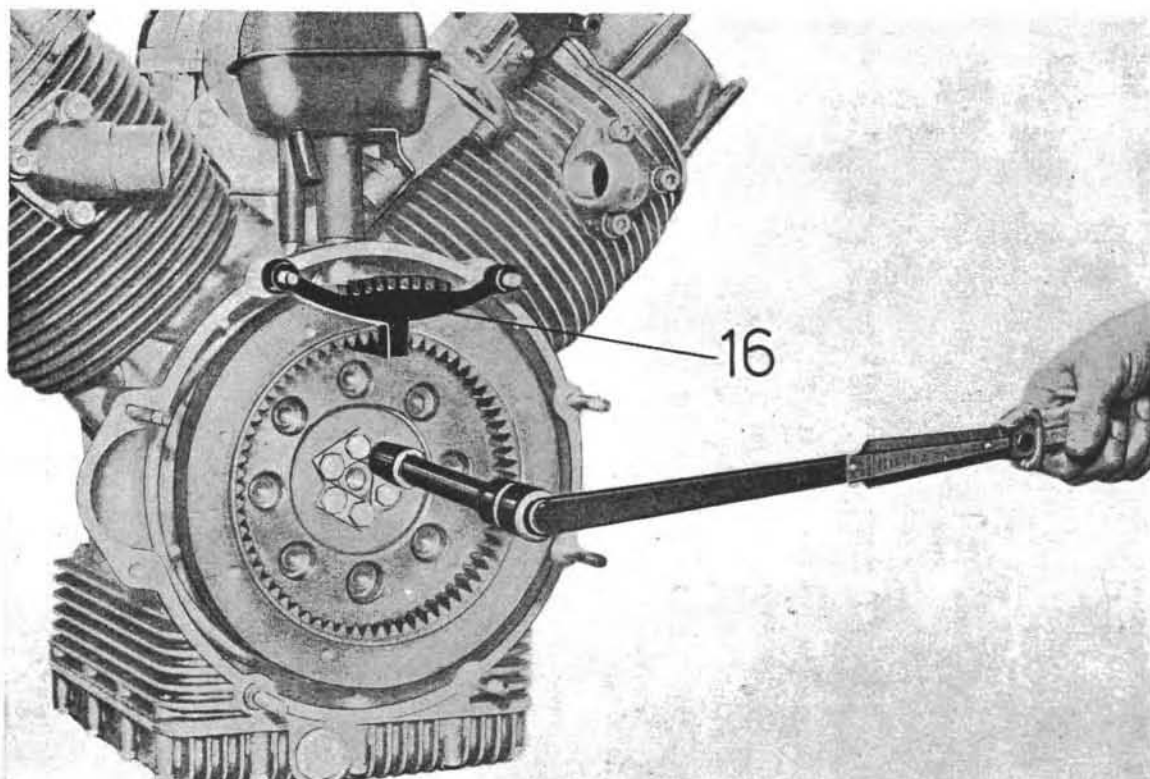

Fig. 11
- flywheel. After flattening the lock plates, unscrew bolts securing flywheel to crankshaft, by means of box wrench and tool No. 12911801 (see 16 on Fig. 11).